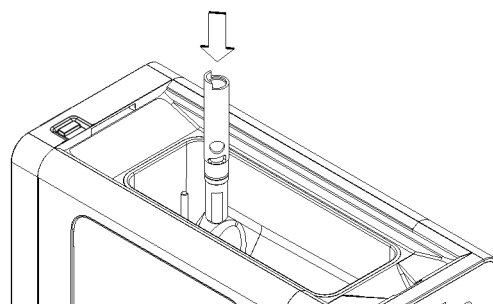

figure 3
- 1** Insert the lower part of the mixing pipe into the purpose-provided connection slot between the tank and the cylinder, making sure you direct it in such a way as to insert it fully in its seat. (see figure 3)